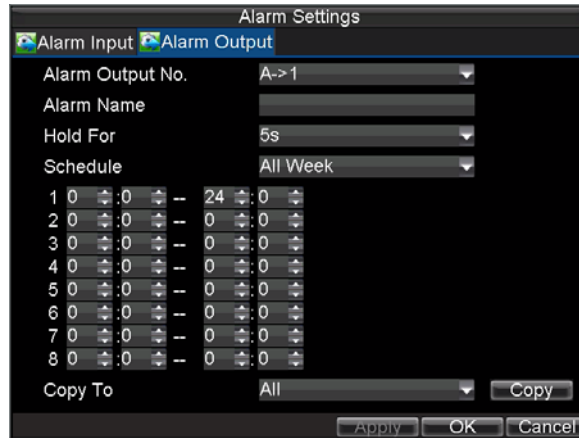

Figure 12. Alarm Output Settings
2. Select the output you would like to configure and click the *Set* button. This will bring up the settings page for the selected channel (Figure 12).